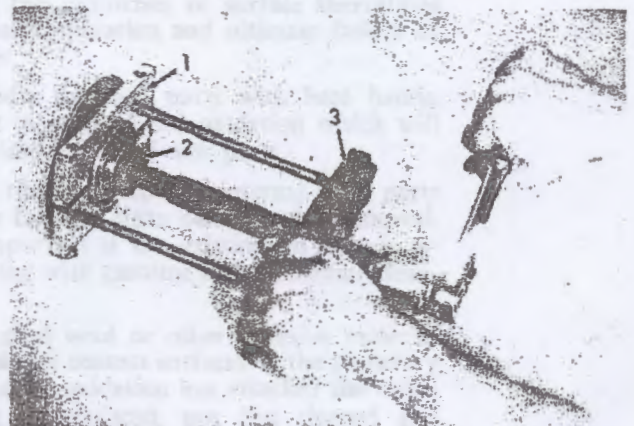

FIG. 120
Remove the sealed ball thrust bearing from the sliding flange by using Puller Plate J-1298 (1, Fig. 120) and HM-925 Puller (3) together with the Puller Centering Button J-6685 (2).